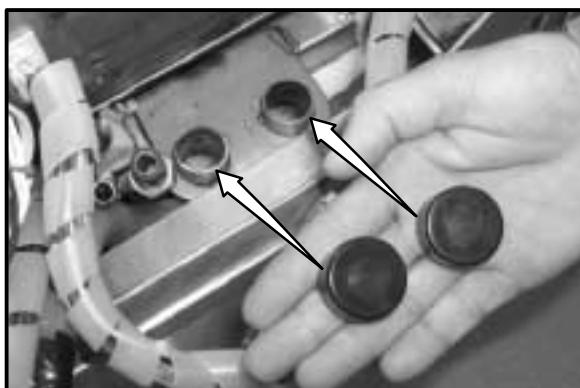

Figure 24
17. Seal the outlets of the steam generator in the oven base section with the plastic caps provided with the installation kit. The caps will prevent water from splashing over the electrical equipment as the oven base section is tipped on it's side when passing through a hatch. See Figure 24. The oven base section should be tipped onto it's left side for passing through a hatch.